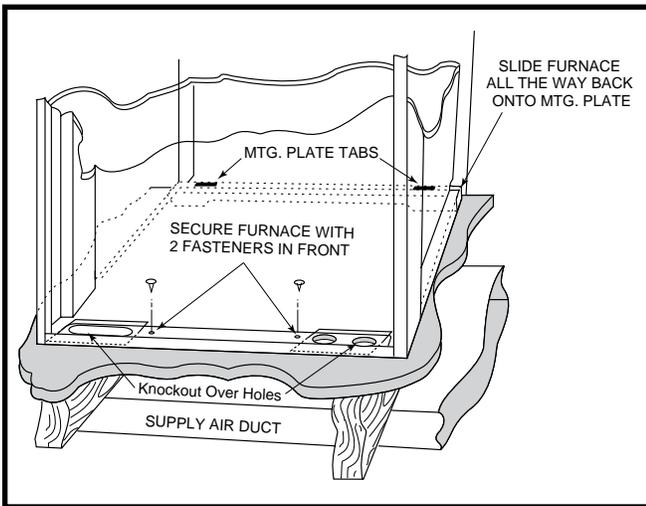

Figure 16. Cabinet Furnace on Supply Air Duct
- The condensate drain may exit through the left or right slots in the bottom of the furnace (Figure 16). Make sure the flexible drain hose is not kinked.